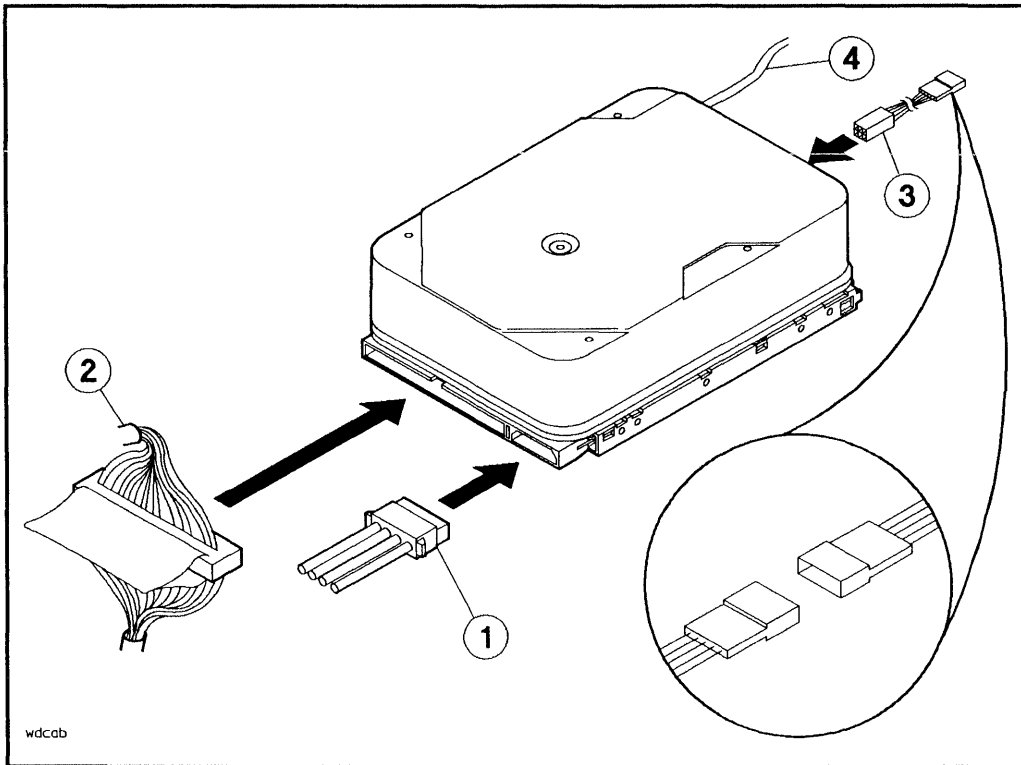

Figure 3-7. Connecting Cables to the 3.5-inch Hard Disk Drive
1. Connect the appropriate address cable to the SCSI address cable on the drive (see Figure 3-7). The address cables in the mass storage system are numbered according to slot number.
3. Connect the internal SCSI cable to the drive (see Figure 3-7).